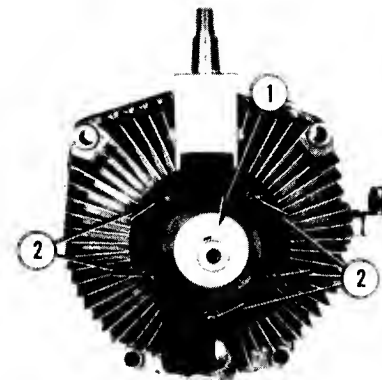

FIG. 4.39-EATON #1100-031 TRANSMISSION
2. Remove grass shield, No. 1, Fig. 4.39, and then remove five bolts, No. 2, noting location of long bolt.